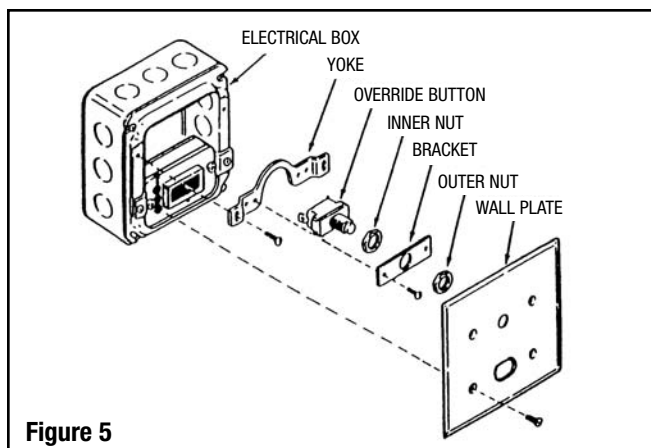

Figure 5
STEP 8 – Mount Yoke and Override Button (Figure 5)